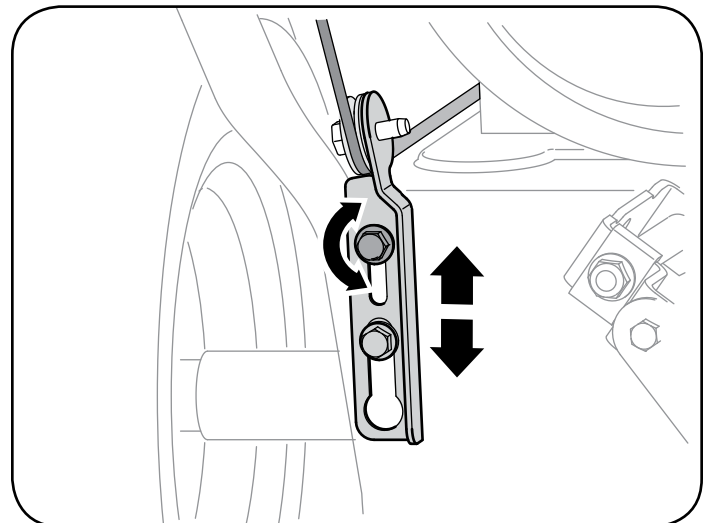

Figure 9
4. Allow the auger to remain engaged for approximately ten (10) seconds before releasing the auger control. Repeat this several times.
8. Position the bracket upward to provide more slack (or downward to increase cable tension). See Figure 9.